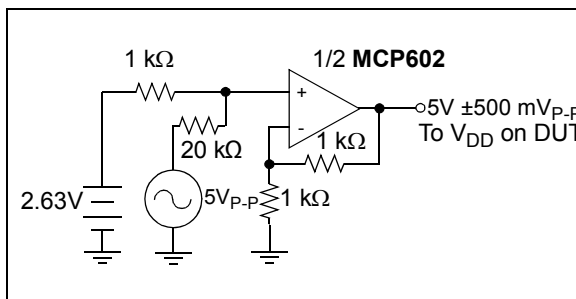

FIGURE 1-4: Power Supply Sensitivity Test Circuit (PSRR).
Note 4: $V_{DD} = 5V$ DC ± 500 mV_{P-P} @ 1 kHz, see test circuit Figure 1-4.
4: $V_{DD} = 5V\text{ DC } \pm 500\text{ mV}_{P-P}$ @ 1 kHz , see test circuit Figure 1-4.
- 4: $V_{DD} = 5V$ DC ± 500 mV_{P-P} @ 1 kHz, see test circuit Figure 1-4.